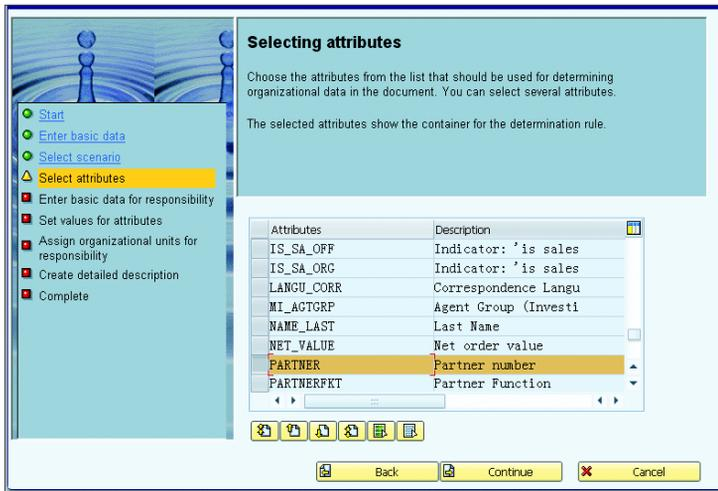

Figure 2.11 Organization Determination from Responsibility Category – Select Attributes
4. In the SELECTING ATTRIBUTES screen, choose from the attributes listed (see Figure 2.11). Click CONTINUE.